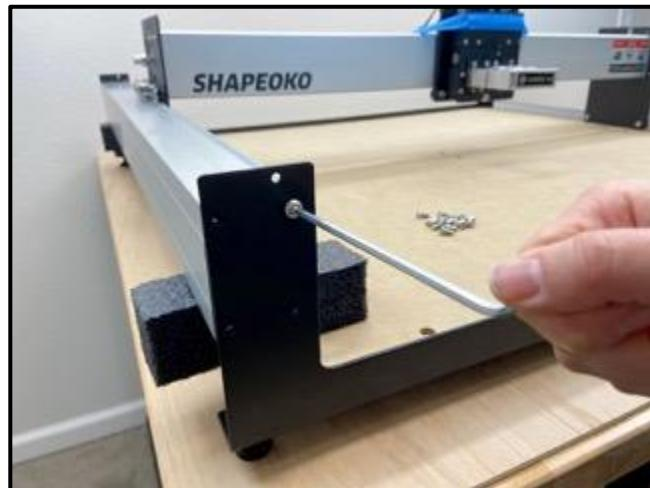

Figure 4-10
PRO TIP: Prop up the extrusions with the two foam blocks from the Y-Axis Left and Right Assembly boxes to help line up the mounting holes. See *Figure 4-10*.
1. Line up the Y1-rail with the **UPPER-INSIDE** mounting holes of the front and rear endplates. See *Figure 4-10*.
2. Use the 4mm hex key and two (2) M6x12mm button head cap screws to loosely secure the Y1-rail to the front and rear endplates. See *Figure 4-10*.